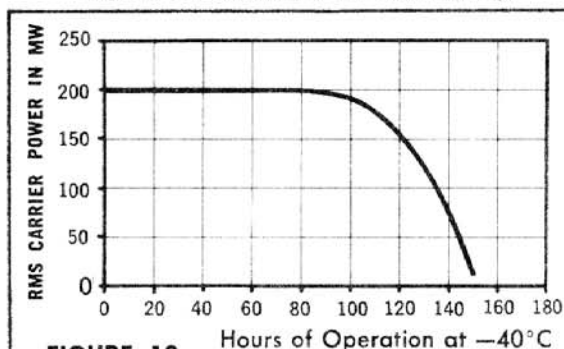

FIGURE 12.
5.3-1 Temperature extremes and precipitation. Cold has a direct effect on battery life. Figure 12 illustrates the relationship.